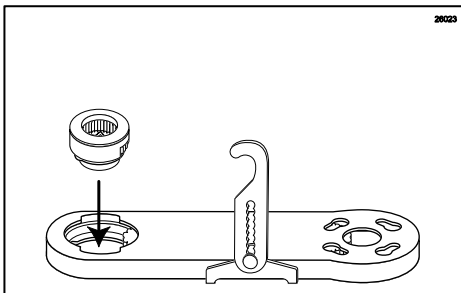

Figure 129
1. Place the Gear Cartridge into the Drive Assembly Gear Box so that the gear teeth line up with the gear inside the Drive Assembly Gear Box. (See Figure 129.)